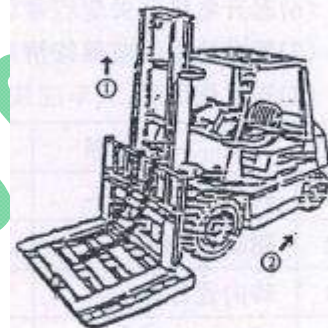

Fig. 8-8
(1) Install a pallet on the fork and park the vehicle on the level ground.
(2) Lower the fork and the pallet to the ground.
(3) Dismantle the end connector at the top of the chain and dismantle the chain from the chain wheel.
(4) Lift the inner mast (① in Fig. 8-8).
(5) Reverse the forklift truck (② in Fig. 8-8) after confirmation that the fork arm carrier has been disengaged from the outer mast.
(6) Replacing the main roller
(7) Dismantle all spring collars and dismantle the main roller using the pull tool. Pay attention to keeping the regulating pad.
(8) Confirm that the new roller and the replaced roller are the same, install the new roller in the fork arm carrier and lock it with the snap ring.